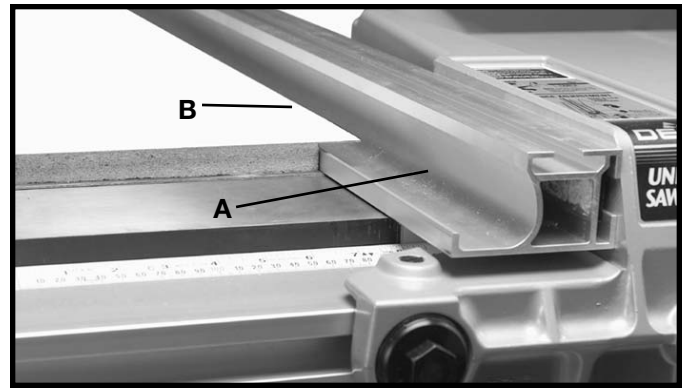

Fig. 76
sticks may interfere with the blade guard. That flat pushboard can be made as shown in Fig. 124A. When ripping material with a veneer facing that extends over the material, the fence (A) should be in the horizontal position with the veneer (B) extending over the lip of the fence, as shown in Fig. 76.